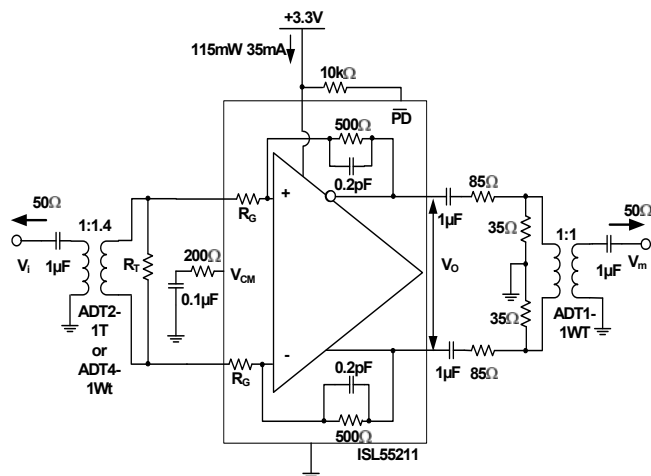
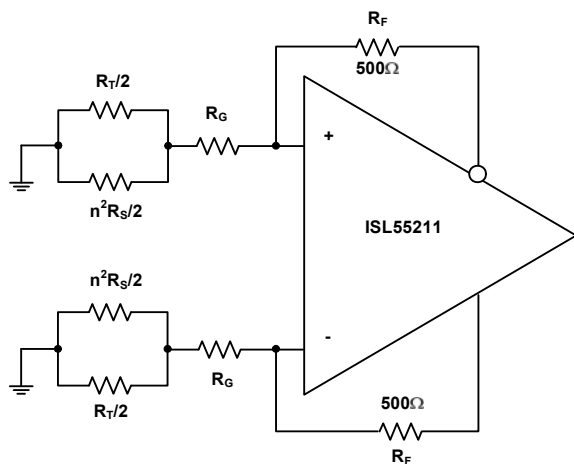
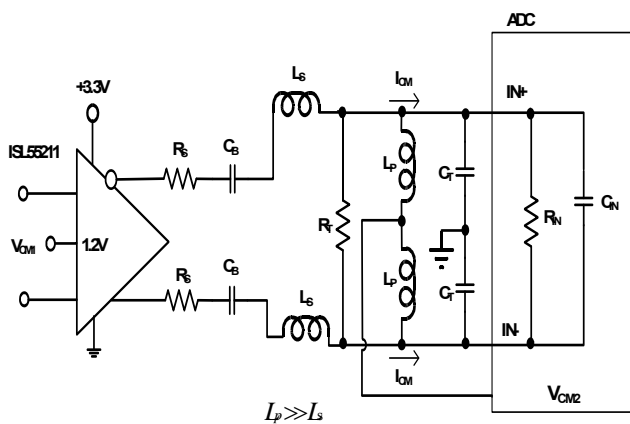

FIGURE 29. TEST CIRCUIT 1
FIGURE 35. NOISE GAIN MODEL FOR THE TRANSFORMER COUPLED INPUT CIRCUIT OF FIGURE 29
FIGURE 37. AC-COUPLED, HIGHER FREQUENCY RLC INTERSTAGE FILTER DESIGN
Test Circuit 1 of Figure 29 forms a starting point for many of the characterization curves for the ISL55211. Since most lab sources and measurement devices are single-ended, this circuit converts to differential at the input through a wideband transformer and would also be a typical application circuit coming from a single-ended source. Assuming the source is a 50Ω impedance, the internal R_G resistors and external R_T are set to provide both the input termination and the gain. Since the inverting summing nodes act as virtual ground points for AC signal analysis, the total termination impedance across the input transformer secondary will be $(2 \cdot R_G) \parallel R_T$. Setting this equal to $n^2 \cdot R_S$ will give a matched input impedance inside the bandwidth of the transformer (where "n" is the turns ratio). The amplifier gain is fixed by the selected input R_G element and the internal 500Ω feedback resistors. While the ISL55211 is internally a Voltage Feedback Design (VFA) to give the lowest possible noise, internal compensation caps hold the bandwidth over gain setting approximately constant at 1.4GHz. For wider small signal bandwidth at lower gains, consider the ISL55210, which provides >2.2GHz at a gain of 12dB.
Working with a transformer coupled input as shown in Figure 29, or with two DC blocking caps from a differential source, means the output common mode voltage set by either the default internal V_{CM} setting, or a voltage applied to the V_{CM} control pin, will also appear as the input common mode voltage. This provides a very easy way to control the ISL55211 I/O common mode operating voltages for an AC-coupled signal path. The internal common mode loop holds the output pins to V_{CM} and, since there is no DC path for an I_{CM} current back towards the input in Figure 29, that V_{CM} setting will also appear as the input common mode voltage. It is useful, for this reason, to leave any input transformer secondary centertap unconnected. The internally set V_{CM} voltage is referenced from the negative supply pin. With a single 3.3V supply, it is very close to 1.2V but will change with total supply voltage across the device as shown in Figure 27.
Most of the characterization curves starting with Figure 29 then get different gains by changing the connections to the two pairs of input R_G connections, as shown on the pin configuration drawing on page 2. Two input turns ratios are intended for Test Circuit 1; either a 1:1.4 turns ratio (ohms ratio of 2) or a 1:2 turns ratio (ohm ratio of 4). The specific transformers shown in Figure 29 are representative of broadband RF transformers but alternate devices and manufacturers of these turns ratio devices are certainly applicable. The output side of this test circuit presents a differential 200Ω load while converting the differential to single-ended through a resistive attenuator and a 1:1 transformer. This inserts approximately a 17dB insertion loss that is removed to report the characteristic curves. For load tests below the 200Ω shown in Figure 29, a simple added shunt resistor is placed across the output pins. For loads > 200Ω, the series and shunt load R's are adjusted to show that total load (including the 50Ω measurement load reflected through the 1:1 output measurement port transformer) and provide an apparent 50Ω differential source to that transformer. This output side transformer is for measurement purposes only and is not necessary for final applications circuits. There are output interface designs that do benefit from a transformer as part of the signal path as shown in Figure 1. In that case, the 1:1.4 output side transformer becomes part of a filter design and recovers the filter insertion loss from the amplifier output pins to the ADC inputs.
The characterization circuit of Figure 29 shows one possible input stage interface that offers several advantages. Where AC coupling is adequate, the circuit of Figure 29 simplifies the input common mode voltage control. If the source coming into this stage is single-ended, the input transformer provides a zero power conversion to differential. The two gain resistors (R_G in Figure 29) provide both a portion of the input termination impedance and the gain element for the amplifier. For 50Ω systems, these R_G resistors are too high with the turns ratios shown in Figure 29 to provide the full match and an external R_T resistor is required. This R_T element goes away at the highest gain setting using a 1:2 input turns ratio transformer.
This input interface also simplifies the input common mode control. The V_{CM} pin controls the output common mode voltage. In most DC-coupled FDA applications, the input common mode voltage is determined by both this output common mode and the source signal. In a configuration like Figure 29, there is no path for a common mode current to flow from output to input, so the input common mode voltage equals the output. A similar effect could be achieved with just two blocking caps on the two R_G resistors. A DC-coupled, single to differential, configuration will also have a common mode input that is moving with the input signal. Converting to just a differential signal at the amplifier, as in Figure 29, removes any input signal related artifacts from the input common mode making the ISL55211 behave as a differential only VFA amplifier. There is only a very small differential error signal at the inputs set by the loop gain, as in a
of 1.3V for instance, then $1.3V + 0.9V + 1.5V = 3.7V$ will give an unclipped 3.6V_{P,P} output capability. The $V_{P,P}$ reported in Figure 27 is an asymmetrically clipped maximum swing. Going 10% above this 3.7V target to 4.1V will be within the recommended operating range and give some tolerancing headroom that would also suggest the V_{CM} voltage be moved up to approximately 1.5V, which coincides with the default output V_{CM} from Figure 27. Operating at +4.1V single supply in a Figure 29 type configuration will give the maximum linear differential output swing of 3.6V_{P,P}.
The differential inputs internal to the ISL55211 also have operating range limits relative to the supply voltages. Operating in an AC-coupled circuit like Figure 29 will produce an input common mode voltage equal to the outputs. The inputs can operate with full linearity with this V_{CM} voltage down to 1.1V above the $-V_S$ supply. On the default 1.2V output V_{CM} on +3.3V supplies this gives a 100mV guardband on the input V_{CM} voltages. Overriding the default V_{CM} by applying a control voltage to the V_{CM} pin should be done with care in going towards the negative supply due to this limit. On the + side, the maximum input V_{CM} above the $-V_S$ supply is 2V so there is more room to move the output V_{CM} up than down from the default value.
Adding an input transformer can improve the input referred noise by adding a noiseless voltage gain. Starting from Test Circuit 1 of Figure 29, and assuming the source shows a matched broadband source R_S that will be matched by the input referred parallel combination of $2 \cdot R_G \parallel R_T$, a noise gain analysis circuit can be developed as shown in Figure 35.
Stepping through the 3 gain settings with two input transformers will allow the noise gain to be calculated for the circuit of Figure 35, which is all that is needed in Equation 1 to arrive at an output differential noise (since R_F is fixed at 500Ω). Doing this gives Table 4.
2. AC-coupled, higher frequency range interstage filter design. This design replaces the R_T resistors in Figure 35 with large valued inductors and implements the filter just using shunt resistors at the end of the RLC filter. In this case, the ADC V_{CM} can be tied to the centerpoint of the bias path inductors (very much like a Bias-T) to provide the common mode voltage and current to the ADC inputs. These bias inductors do limit the low frequency end of the operation where, with $1\mu\text{H}$ values, operation from 10MHz to 200MHz is supported using the approach of Figure 37.